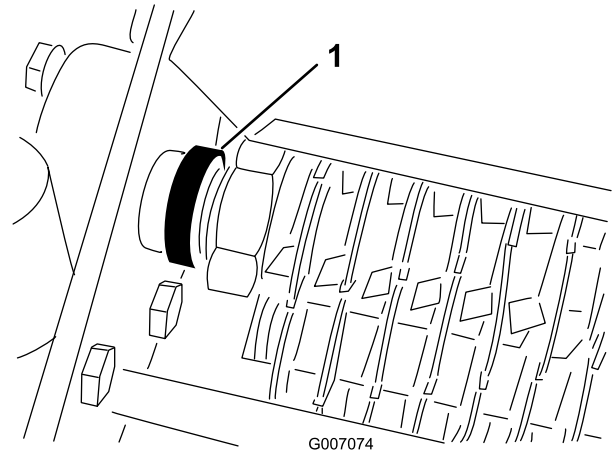

Figure 13
4. Remove setscrews from locking collars on reel bearings (Figure 13).